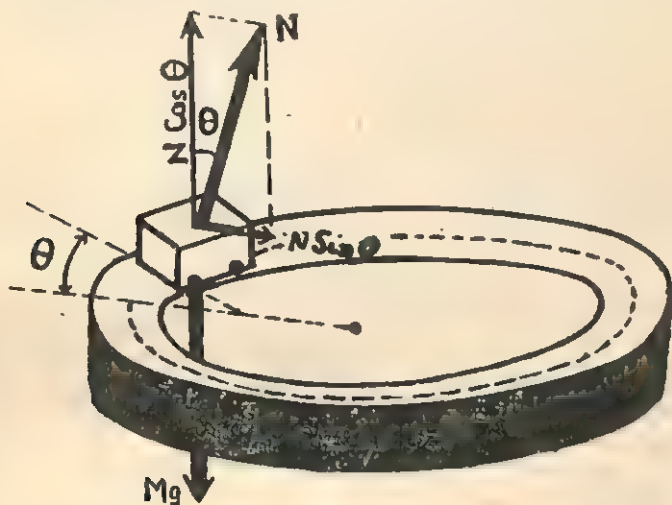

Fig. 4-3. A toy train moving on a circular "Banked" rails.
**Procedure.** (i) Wind the spring of the train fully by rotating its key tightly and let it run on its lines. (See Fig. 4.3). In case the train does not skid outwards, make the changes as below.